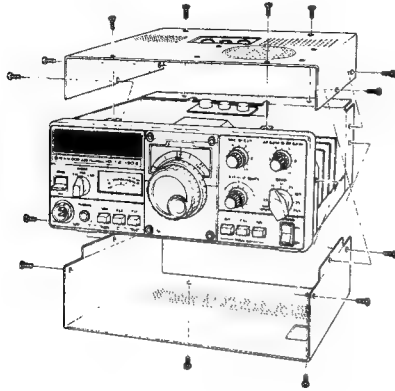

Fig. 14 Case disassembly
1. Remove the upper and lower cases as shown in figure 14. below.